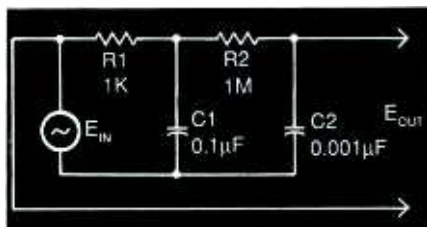
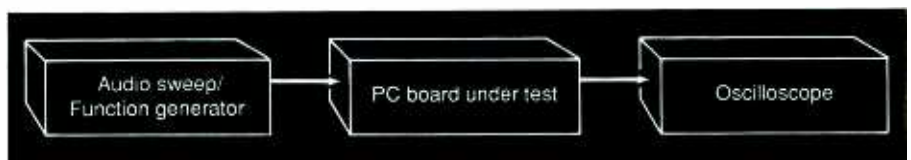
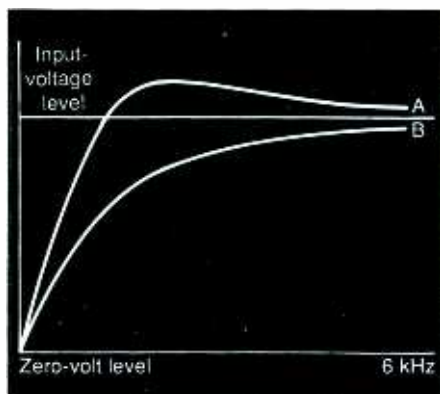

Fig. 1. A basic pseudo-active RC high-pass filter configuration.
Fig. 2. Typical basic setup for troubleshooting with sweep-frequency signals.
Fig. 3. Sweep-frequency curves showing (A) normal response and (B) with $C1$ in the Fig. 1 circuit open.
Fig. 2. A number of sound modules, including synthesizers and samplers, can be assigned to individual MIDI channels. By changing the transmitting channel of the master controller, various sounds can be instantly selected.
Shown in Fig. 1 is a schematic diagram of the data path that exists between two MIDI devices. Data from the master instrument's microprocessor is converted into serial data that is then buffered by hex inverter *IC1*. This buffering isolates internal components to prevent loading and external short circuits, while *IC1* is able to supply adequate current for reliable signal transfer. Resistor *R1* limits the inverter's output current and also serves to protect the inverter from short circuits and excessive voltages that might arise as a result of wiring errors.
The MIDI specification calls for five-pin DIN-type connectors as standard. These connectors are inexpensive, reliable and widely available. Pins 4 and 5 connect to the current loop, as illustrated in Fig. 1. Pin 2 connects the cable's shield conductor to circuit ground on the instru-
Fig. 3. Combining a MIDI controller, computer- or hardware-based sequencer and one or more MIDI modules forms a powerful tool for musical composition and performance. The controller and sequencer can record and play back a number of separate musical parts simultaneously, allowing a single musician to become a true "one-man band."
in Fig. 1. To check the frequency response of this filter, input voltage E_{in} can be from an audio oscillator and output voltage E_{out} can be applied to an ac DVM or DMM set to the ac volts function. After half a dozen measurements have been made at progressively higher frequencies, you can determine if the circuit has normal response. This procedure requires several minutes at the very least to complete.
Next, if an audio sweep generator and oscilloscope are employed, as in Fig. 2, the circuit's response is obtained almost instantaneously over the entire frequency range of interest, as illustrated in Fig. 3. The curves shown here depict normal response of the filter and the distorted response that results if $C1$ in Fig. 1 is open. Under such a fault condition,
Fig. 5. Sweep-frequency response of an RC bandpass filter showing (A) normal response, (B) distorted response with $C2$ in Fig. 1 open, and (C) distorted response with $C1$ shorted.
Returning to Fig. 3 for a moment, you can observe that the three-section RC pseudo-active high-pass filter has a resonant frequency and that a voltage magnification of approximately 15 percent is realized at resonance. This voltage magnification is